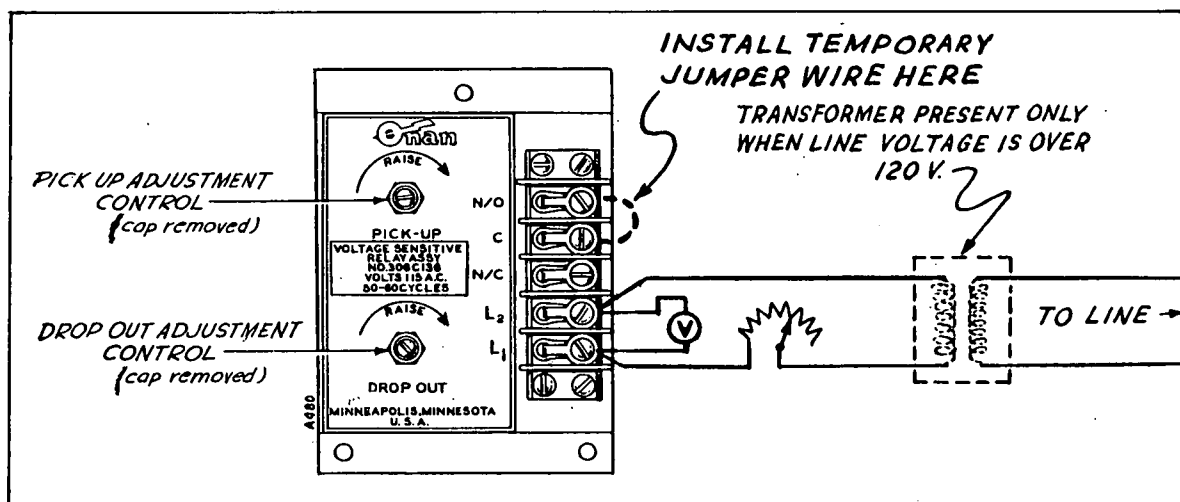

FIG. 9 - VOLTAGE SENSITIVE RELAY ADJUSTMENT
2. Install temporary jumper wire from N/O to C terminals (Fig. 9).